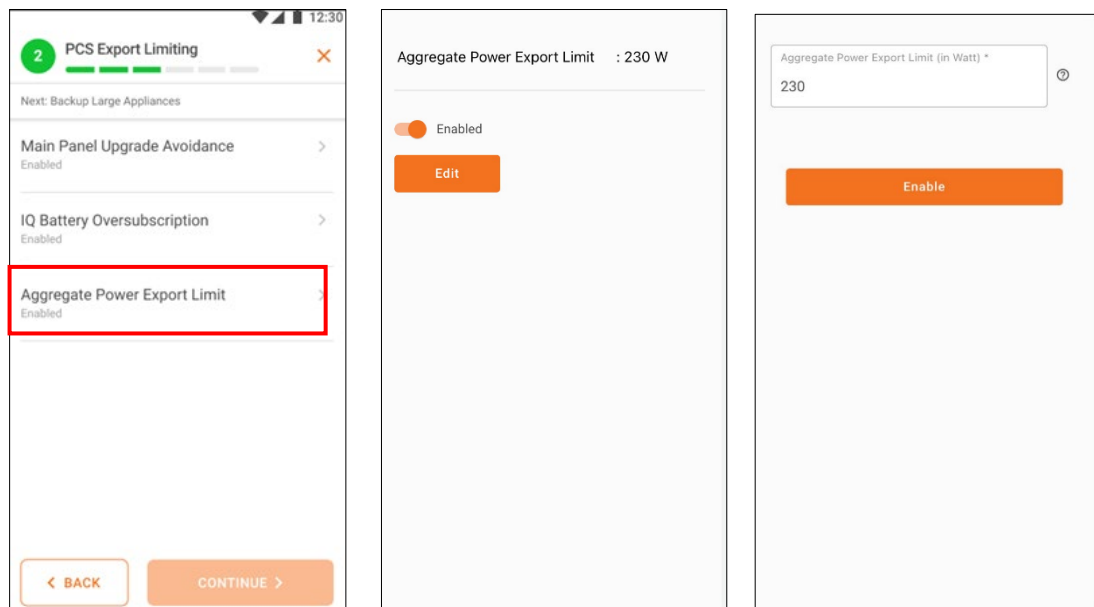

Figure 26: Aggregate Power Export Limit configuration
On the Configuration screen for the feature, as shown in Figure 26, the installer must input the **Aggregate Power Export Limit (W)** and press the **Enable** button to enable the feature.